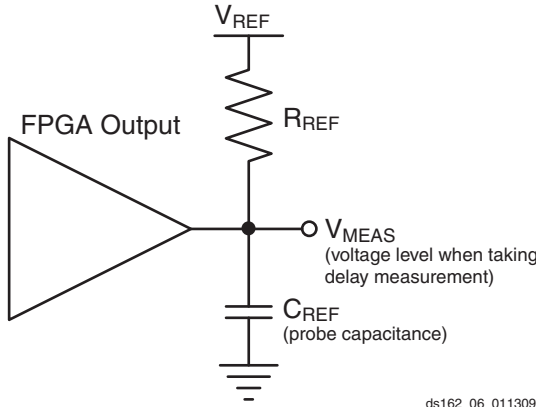

Figure 4: Single-Ended Test Setup
4. This is an input voltage reference that bears no relation to the  $V_{REF} / V_{MEAS}$  parameters found in IBIS models and/or noted in Figure 4.
Output delays are measured using a Tektronix P6245 TDS500/600 probe (< 1 pF) across approximately 4" of FR4 microstrip trace. Standard termination was used for all testing. The propagation delay of the 4" trace is characterized separately and subtracted from the final measurement, and is therefore not included in the generalized test setups shown in Figure 4 and Figure 5.